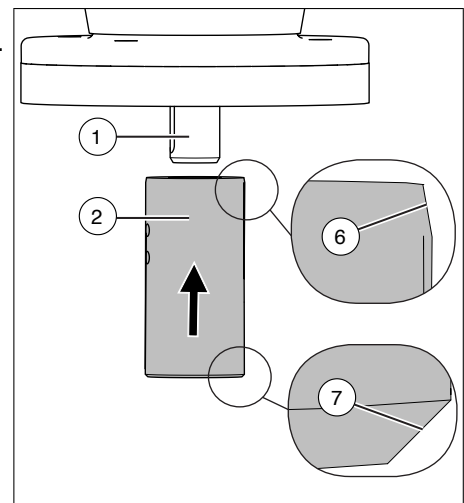

Fig. 13: Installing the adapter
- Slide the adapter onto the drive shaft. The steep external bevel must be pointed in the direction of the flange while doing so (Fig. 13).